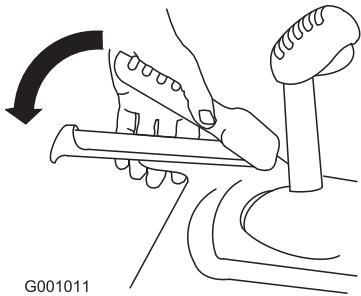

Figure 14
- Squeeze the left hand (traction) lever to the hand-grip (Figure 14).